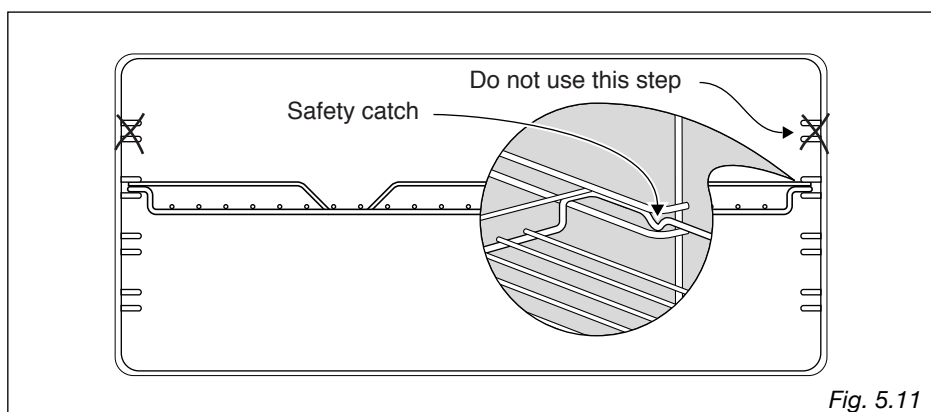

Fig. 5.11
- Slide in, on the guides, the shelves (fig. 5.11). Do not use the first step from the top. The rack must be fitted so that the safety catch, which stops it sliding out, faces the inside of the oven.